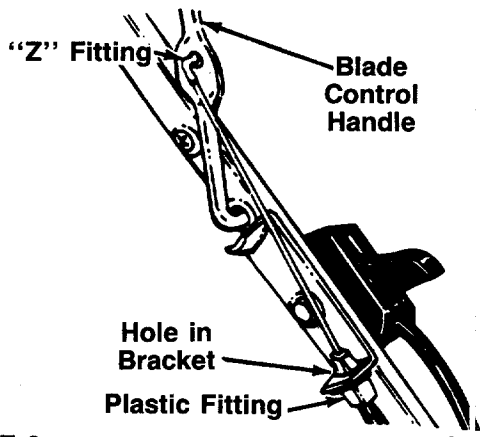

FIGURE 3.
1. The brake cable is attached to the engine, and has a "Z" fitting on the loose end. Route the brake cable below the lower handle. Place end of cable through the hole in the bracket as shown in figure 3.